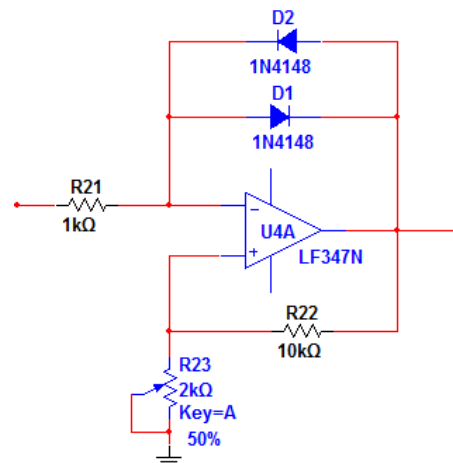

Figure 5-4 – Improved signal conditioning circuit employing hysteresis.
- Optional: modify your signal conditioning circuit as suggested in Figure 5-4.